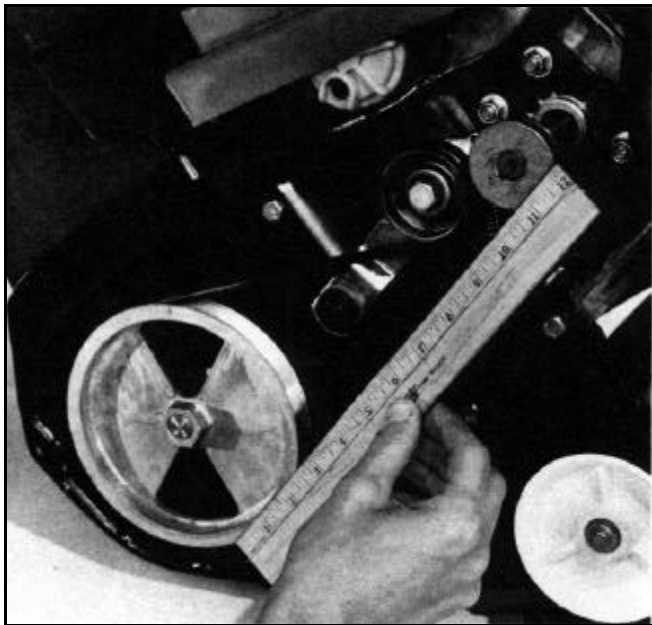

Figure 63 0217-035
3. Align the crankshaft pulley and rotor pulley with a straight edge (ie. ruler, piece of wood, etc...) (Figure 63).
4. Refer to "Belt Alignment" on page 5 - 2 (Figure 63). Perform steps 3 through 5.